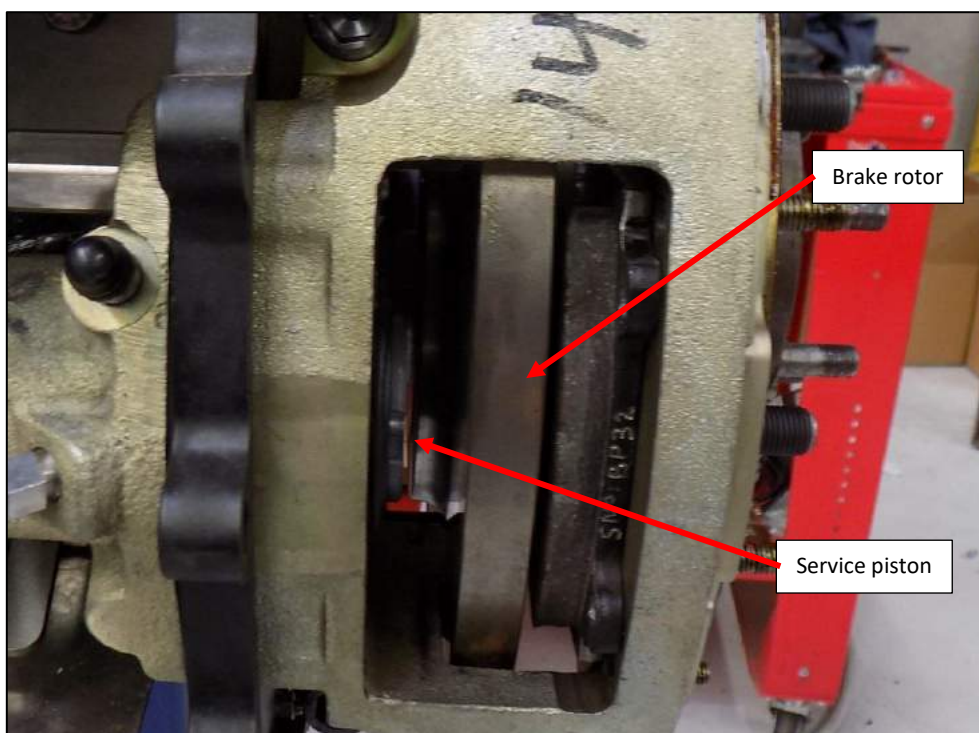

Figure 63
5. Slide the brake rotor evenly along the spline towards the service piston to allow access to the outer brake pad (Figure 63).